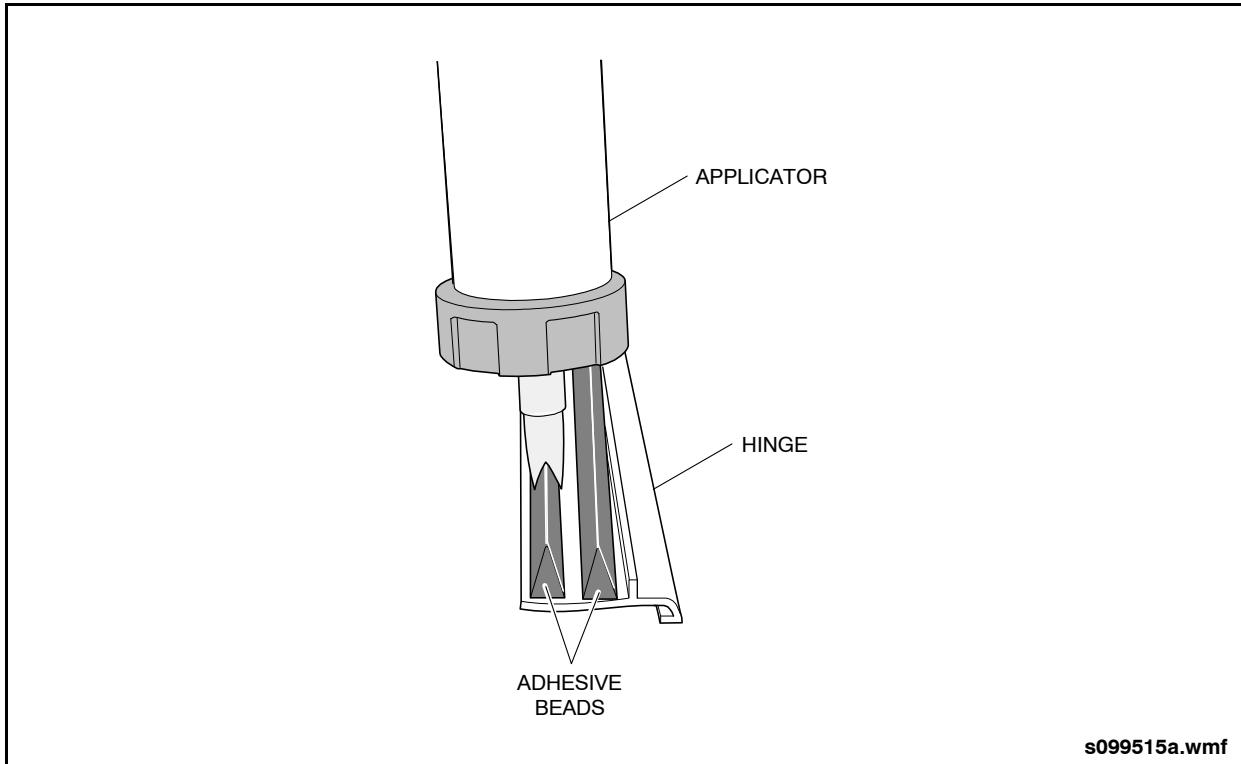

Fig. 14-19: Male Hinge Adhesive Application
2. Apply two beads of Simson adhesive along the full length of the male hinge. See "Fig. 14-19: Male Hinge Adhesive Application" on page 23.